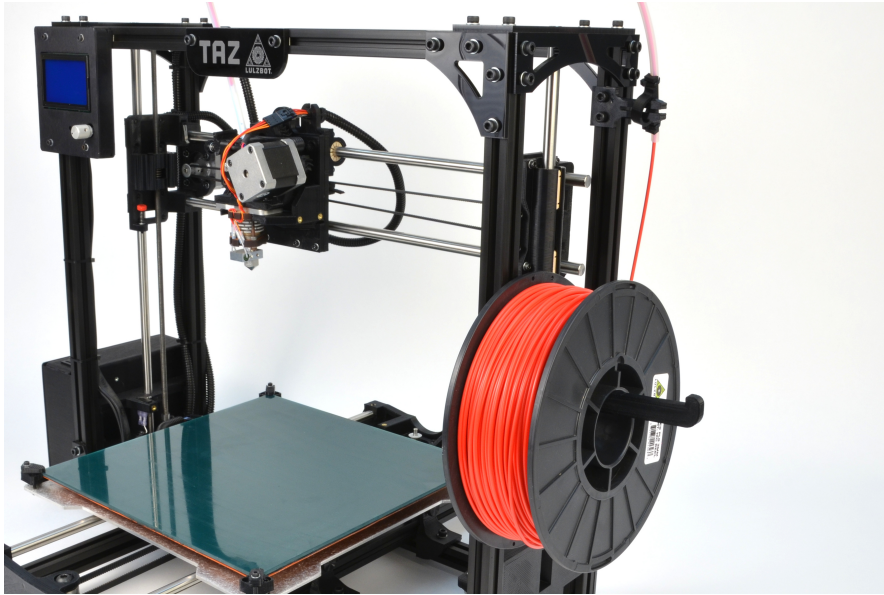

Figure 2.2: Filament run through the guide
2. Feed the end of the filament through the filament feed tube. The Filament should now be threaded through the PTFE sleeve and exiting near the extruder (fig. 2.2, page 35).